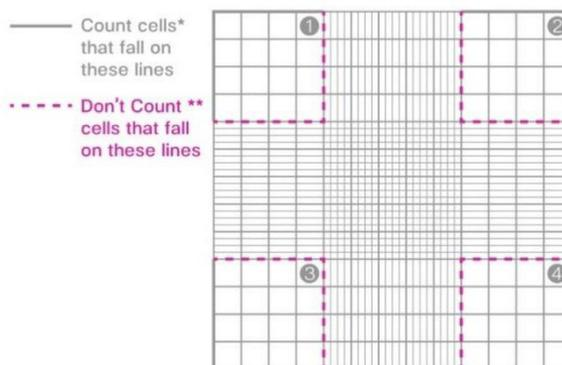

Figure 5: Hemocytometer.
8. Count cells using a manual hemocytometer (See figure 5.)